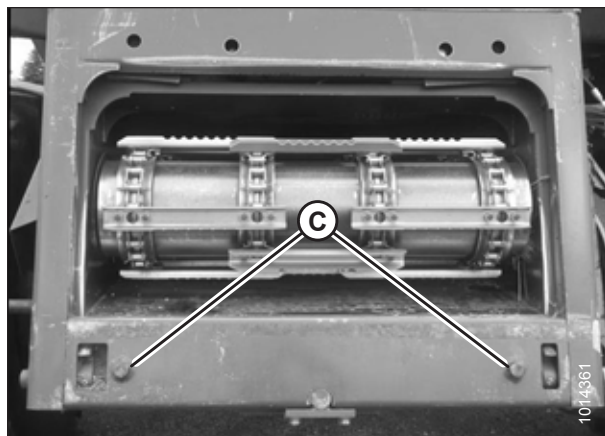

Figure 4.22: AGCO Group Alignment Pins
2. Start the engine and slowly approach the header until the feeder house is directly under the float module top cross member (A) and the alignment pins (C) (refer to Figure 4.22, page 321) on the feeder house are aligned with the holes (B) in the float module frame.